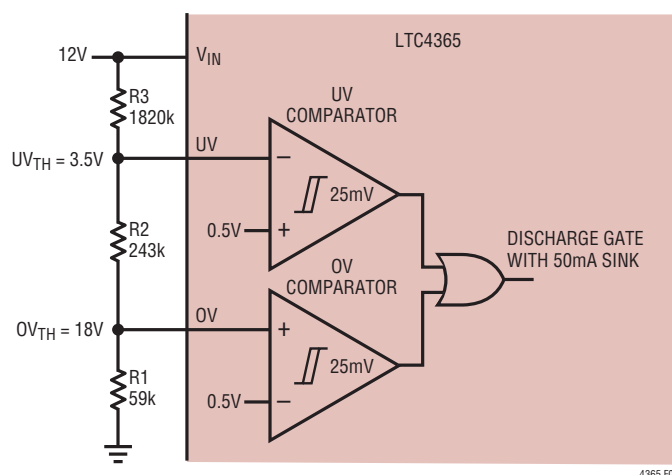

Figure 4. UV, OV Comparators Monitor 12V Supply
The LTC4365 provides two accurate comparators to monitor for overvoltage (OV) and undervoltage (UV) conditions at V_{IN} . If the input supply rises above the user adjustable OV threshold, the gate of the external MOSFET is quickly turned off, thus disconnecting the load from the input. Similarly, if the input supply falls below the user adjustable UV threshold, the gate of the external MOSFET also is quickly turned off. Figure 4 shows a UV/OV application for an input supply of $12V$.
The external resistive divider allows the user to select an input supply range that is compatible with the load at V_{OUT} . Furthermore, the UV and OV inputs have very low leakage currents (typically $< 1nA$ at $100^\circ C$), allowing for large values in the external resistive divider. In the application of Figure 4, the load is connected to the supply only if V_{IN} lies between $3.5V$ and $18V$. In the event that V_{IN} goes above $18V$ or below $3.5V$, the gate of the external N-channel MOSFET is immediately discharged with a $50mA$ current sink, thus isolating the load from the supply.
The following 3-step procedure helps select the resistor values for the resistive divider of Figure 4. This procedure minimizes UV and OV offset errors caused by leakage currents at the respective pins.
The example of Figure 4 uses standard 1% resistor values. The following parameters were selected: